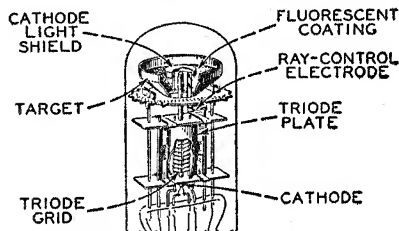

Fig. 109—Structure of electron-ray tube.
Electron-ray tubes are designed to indicate visually by means of a fluorescent target the effects of a change in controlling voltage. One application of them is as tuning indicators in radio receivers. Types such as the 6U5, 6E5, and the 6AB5/6N5 contain two main parts: (1) a triode which operates as a dc amplifier and (2) an electron-ray indicator which is located in the bulb as shown in Fig. 109. The target is operated at a positive voltage and, therefore, attracts electrons from the cathode. When the electrons strike the target they produce a glow on the fluorescent coating of the target. Under these conditions, the target appears as a ring of light.